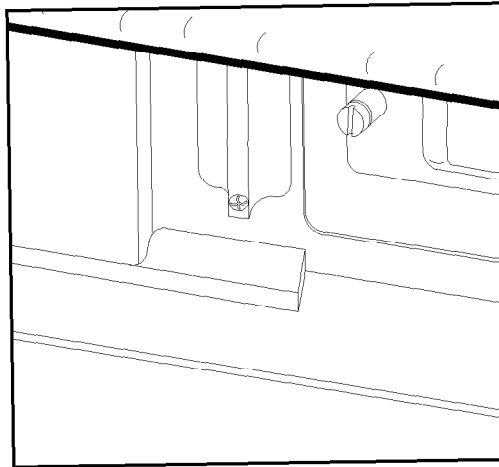

Figure 4-27. Loosening Screw of Filter Holder
2. Using the Pozidriv screwdriver included in the standard accessory kit, loosen the screw in the filter holder, shown in Figure 4-27. Pull out the holder.